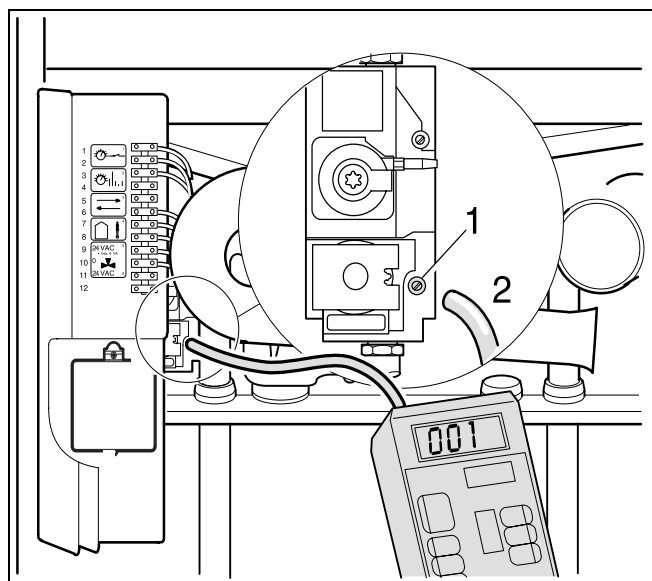
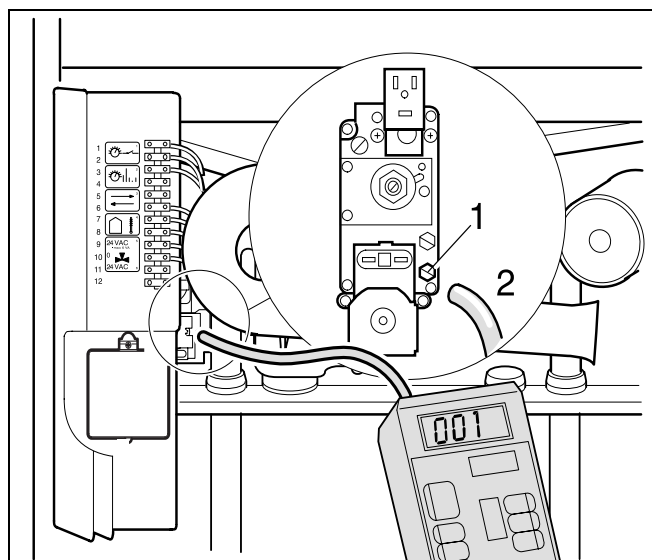

fig. 35 Measuring the gas distribution pressure (Honeywell gas units)
fig. 36 Measuring the gas distribution pressure (SIT gas units)
- Loosen the screw plug on the gas distribution pressure test nipple on Honeywell gas units (fig. 35, item 1) two turns, fully unscrew the plug on SIT gas units (fig. 36, item 1).
- Fit the measuring hose of the pressure gauge to the test nipple (fig. 35, item 2 or fig. 36, item 2).